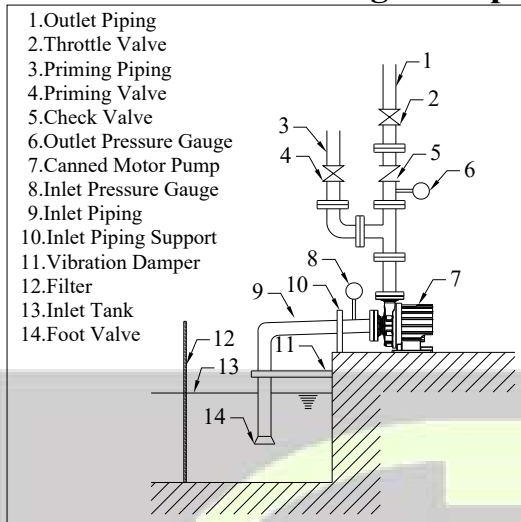

Fig. 4.1
Foot valve	<p>Install a foot valve if negative suction or upward suction is used (see Fig. 4.1).</p>
Discharge System	<p>(1) The discharge piping should be properly secured and supported to prevent placing excessive stress on the pump.</p> <p>(2) For systems with a negative suction, priming piping is recommended (see Fig. 4.1).</p> <p>(3) The flow velocity of the liquid should not exceed 3 m/s.</p> <p>(4) For safe operation, discharge piping components must be able to withstand the pressure generated by the pump.</p>